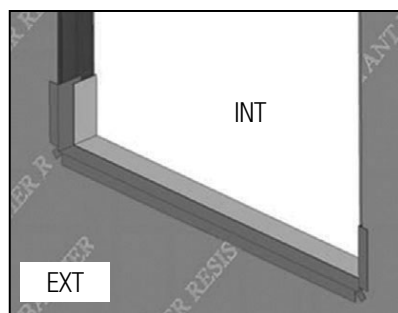

FIG. 10
- F) Flashing tape must cover the entire sill plate. If needed, apply an additional flashing piece over the first one (*start from the exterior and work toward the interior*). Maintain a minimum 1" overlap. (Fig.10)